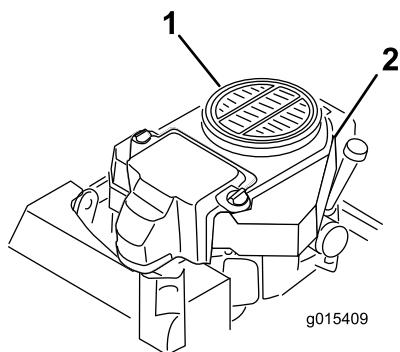

Figure 63
3. Remove the air intake screen and fan housing (Figure 63).
5. Install air intake screen, recoil starter and fan housing (Figure 63).